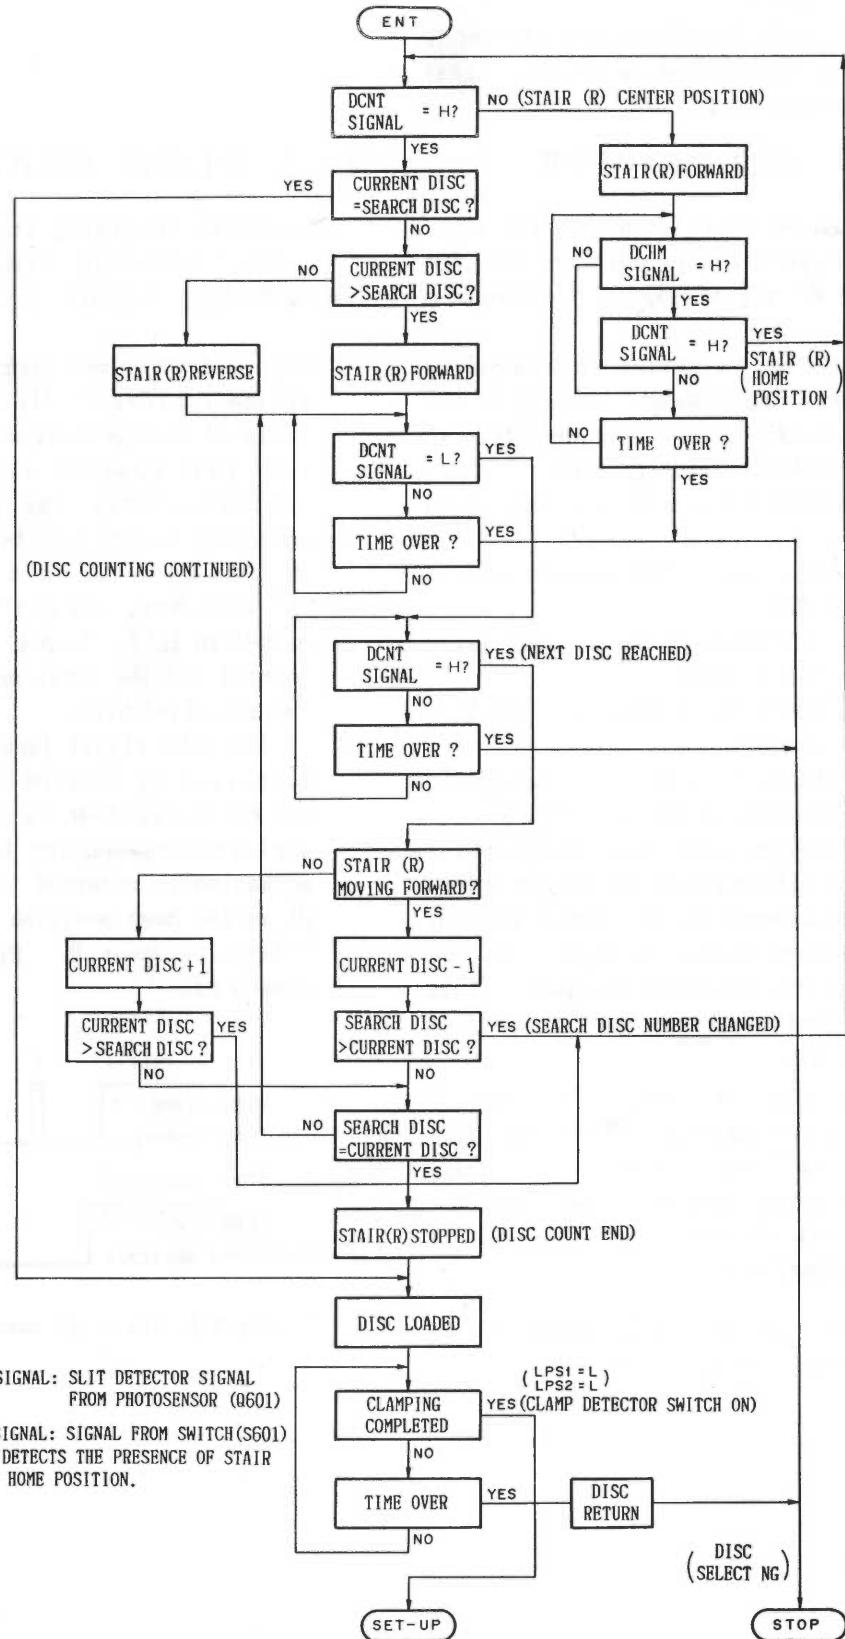

Fig.4-2 Flow chart
9. Upon further movement of the differential lever (with the differential and driver levers unlocked), the clamper holder moves towards the disc table and lifts the disc. At the same time, the disc table is clamped. (This status corresponds to DISC LOAD in the flow chart in Fig.4-2).
A flow chart outlining stair (R) operation and disc select operation centered about DCNT (Q601) and DCHM (S601) signals is shown in Fig.4-2.
- ① When a disc select operation is started, the system control IC (IC12) calculates on the basis of the current selected disc position and the search disc position, and activates/reverses the selector motor according to the results, thereby moving stair (R) forward or backward. During this stair (R) movement, the DCNT signal from Q601 is passed to IC12. Each L → H change is counted and the servo mechanism is shifted to the specified disc.
- ② If the DCNT signal (Q601) is L when a select operation is started (indicating that the servo mechanism is in an intermediate position between any two discs), the servo mechanism is returned (stair (R) moved forward) to the home position where the DCHM signal (S601) becomes H. Operation ① is then commenced.